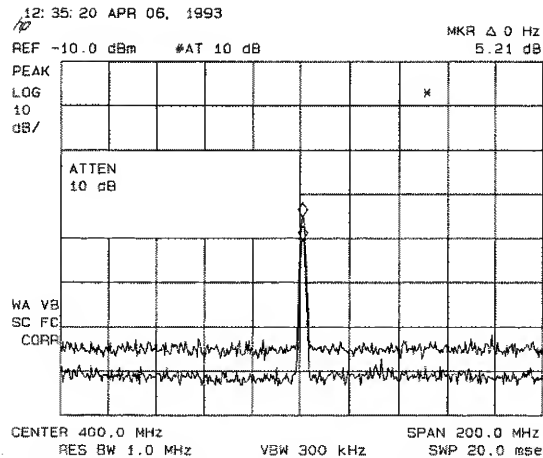
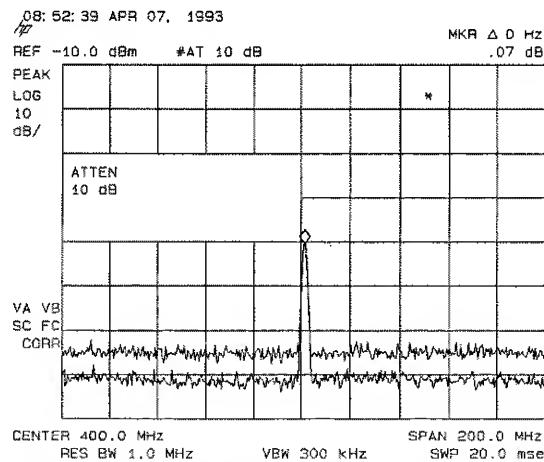

Figure 3-22. RF Attenuation of 10 dB
Figure 3-23. No Harmonic Distortion
5. Next, increase the RF attenuation by 10 dB: press **AMPLITUDE**, **ATTEN AUTO MAN**, and the step-up key (**↑**) once. (See Figure 3-22.)
If the responses in trace A and trace B differ, as in Figure 3-22, then attenuation is required. If there is no change in the signal level, the distortion is not caused internally. For example, the signal amplitude in Figure 3-23 is not high enough to cause internal distortion in the spectrum analyzer so any distortion that is displayed is present on the input signal.